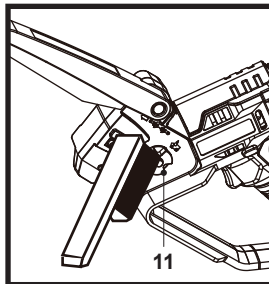

Fig. 14
2. In particular clean the air vents (3) after every use with a cloth and brush.
4. Clean the drive sprocket (11) area with a brush (Fig. 14).